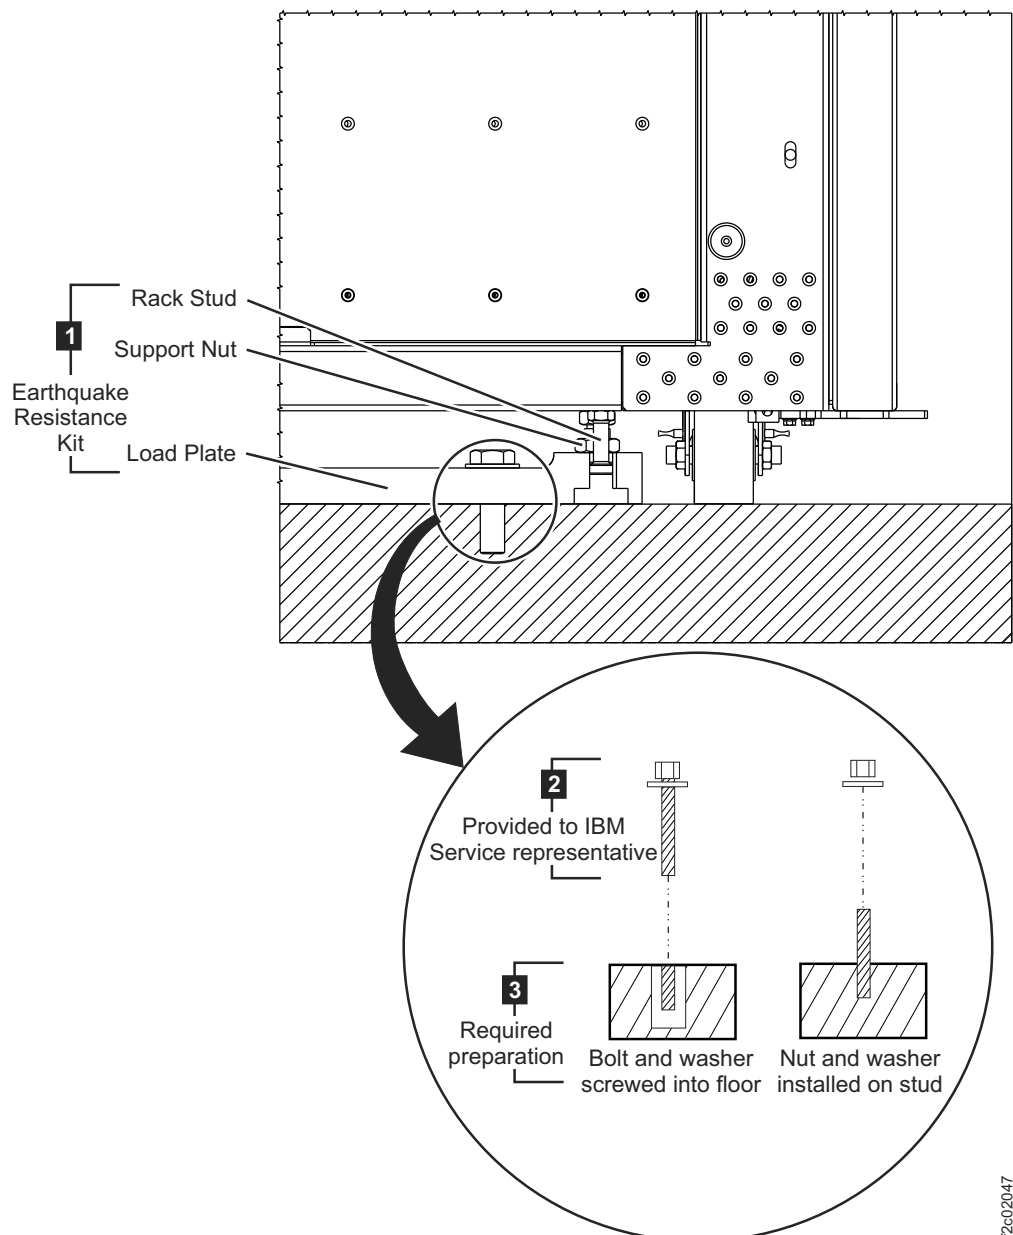

Figure 24. Earthquake resistance kit installed on a nonraised floor.
Figure 24 provides an illustration of the earthquake resistance kit (**1**) after the IBM service representative installs it on the nonraised floor.
Before the IBM service representative installs the kit, you must prepare the area that is shown as **2** in Figure 24. This figure shows two of the most common fasteners that you can use.
Figure 24 on page 146 illustrates the fastener sets.
- When the IBM service representative arrives to install the earthquake resistance kit, provide the other fastener parts (**2** in Figure 24 on page 146 so that the representative can use these parts secure the load plates onto the floor.